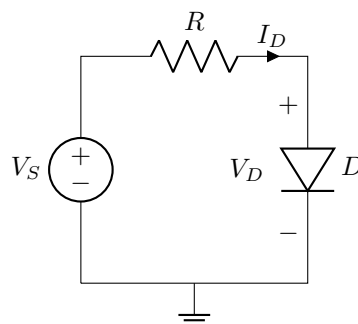

Figure 1: Forward-bias pn junction I-V characteristic measurement circuit.
Begin by constructing the circuit shown in Figure 1 on the breadboard using the small-signal silicon diode and the 1 k Ω resistor. Ensure that the diode is oriented correctly with the anode connected toward the positive supply terminal and the cathode toward ground. Set up the lab instruments to measure the diode voltage V_D and current I_D . To measure the voltage, connect the leads of the DMM (Digital Multimeter) across the diode terminals to measure the diode voltage directly. To measure the current, there are two options: connect a second DMM in series with the circuit (being careful to observe the current measurement limits of the meter) or measure the voltage across the resistor and calculate the current using Ohm's law ($I_D = V_R/R$). The second method is often preferred as it avoids potential issues with the meter burden voltage.
2. For the circuit in Figure 1, assume $V_S = 5 \, \text{V}$, $R = 1 \, \text{k}\Omega$, and the diode forward voltage is $0.7 \, \text{V}$ when conducting. Calculate (a) the voltage across the resistor, (b) the current through the diode, and (c) the power dissipated by the diode. Show all calculations.